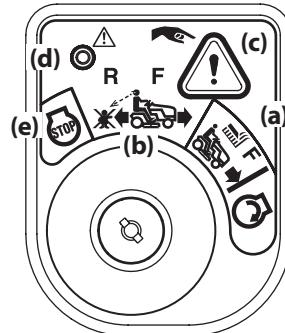

Figure 16
- Turn the ignition key from the NORMAL MOWING (a) position to the REVERSE CAUTION MODE (b) position of the ignition switch. See Figure 16.
- Press and hold the REVERSE CAUTION MODE BUTTON (c) at the top, right corner of the ignition module for 3 seconds. The red indicator light (d) at the top, left corner of the ignition module will be ON while activated. See Figure 16.
- Once activated (indicator light ON), the tractor can be driven in reverse with the PTO (Blade Engage) in the engaged (ON) position.
The REVERSE CAUTION MODE (b) will remain activated until (see Figure 16 on page 18):